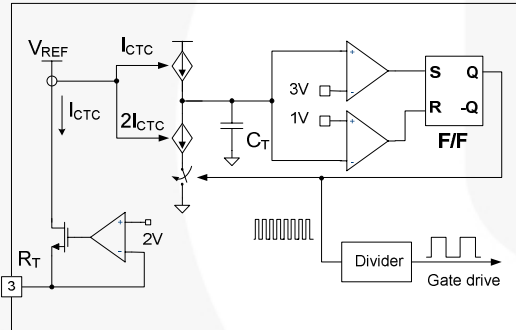

Figure 16. Current Controlled Oscillator
2. Internal Oscillator: FSFR-US series employs a current-controlled oscillator, as shown in Figure 16. Internally, the voltage of R_T pin is regulated at 2V and the charging / discharging current for the oscillator capacitor, C_T , is obtained by copying the current flowing out of the R_T pin (I_{CTC}) using a current mirror. Therefore, the switching frequency increases as I_{CTC} increases.